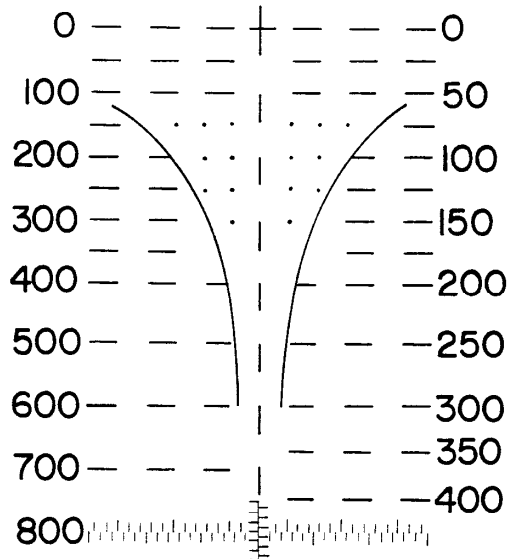

Figure 3.1 Sight reticle, M103A1 sight.
Page 5. Figure 3.1 is added as follows:
a. The M103A1 sight (fig. 3.1) is a modified version of the standard M103 sight. The modification has been made to the right side of the sight reticle and is to be referred to only when firing the XM591 round. The value difference of